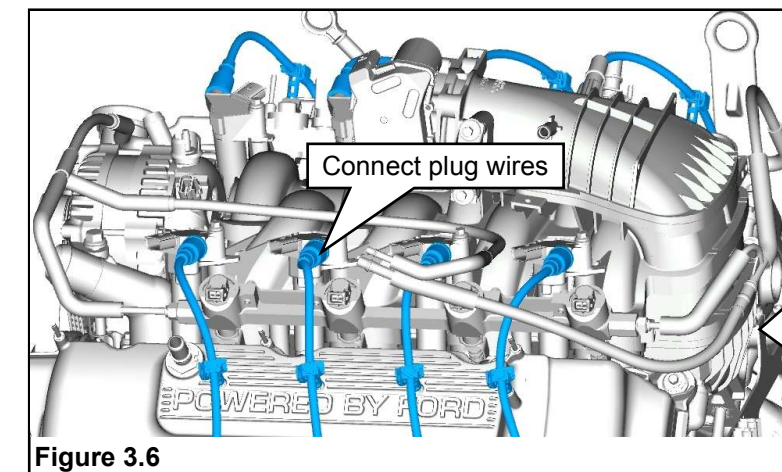

Figure 3.6
9. Connect the electrical connectors to the ignition coils and install the plug wires. **Note:** Make sure the coil connectors and plug wires are correctly connected. **Figure 3.6.**